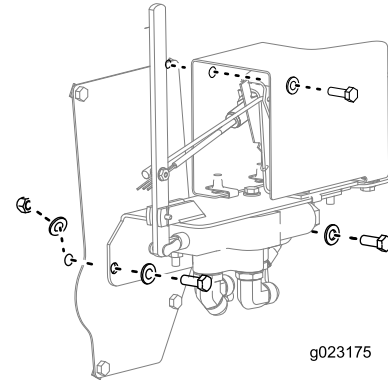

Figure 16
- Remove the nut and bolt on the top right of the access panel on the machine (Figure 16).
- Insert 2 bolts (3/8 inch) and 2 washers (3/8 inch) through the assembly and secure with 2 washers (3/8 inch) and 2 nuts (3/8 inch) on the inside of the machine panel (Figure 16).